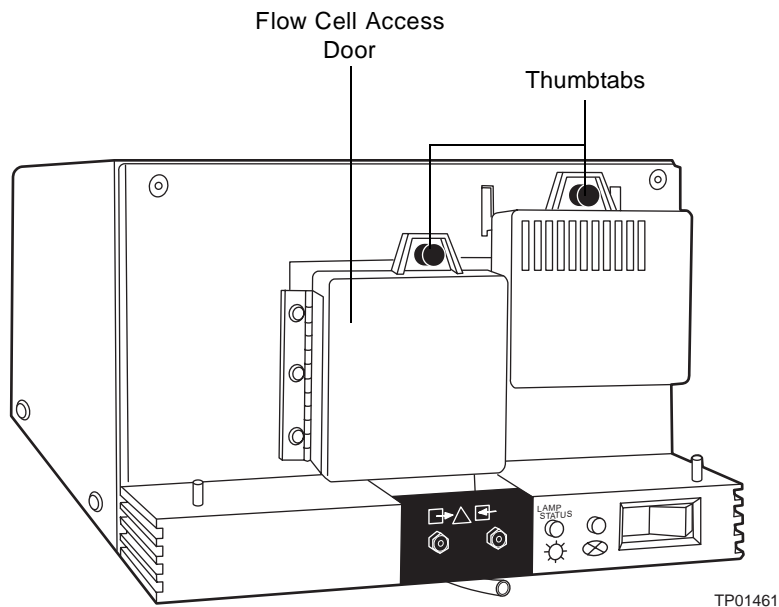

Figure 3-1 Flow Cell Access Door
5. Open the flow cell access door by pulling the black thumbtab, then pull the door gently toward you (Figure 3-1).